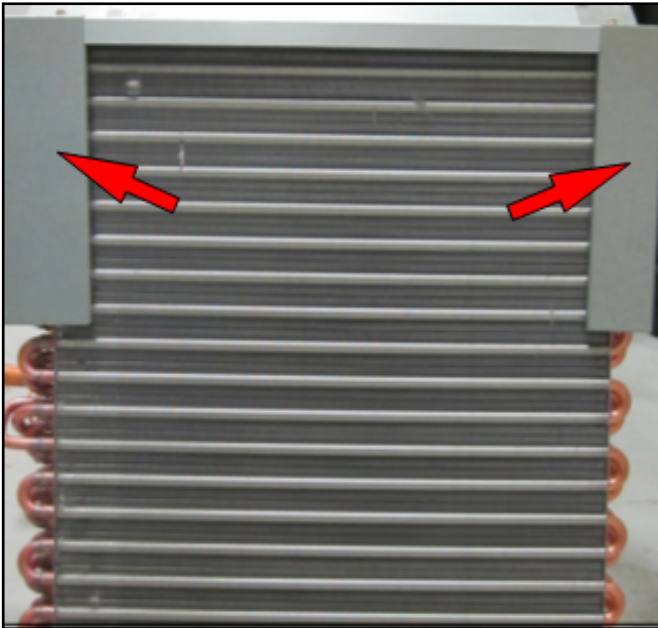

Figure 7
5. Reinstall the top cap. Rotate the blow-off prevention brackets 180° and reinstall using the same screws. Use the correct mounting holes; the brackets must cover the hairpins. See figure 7.